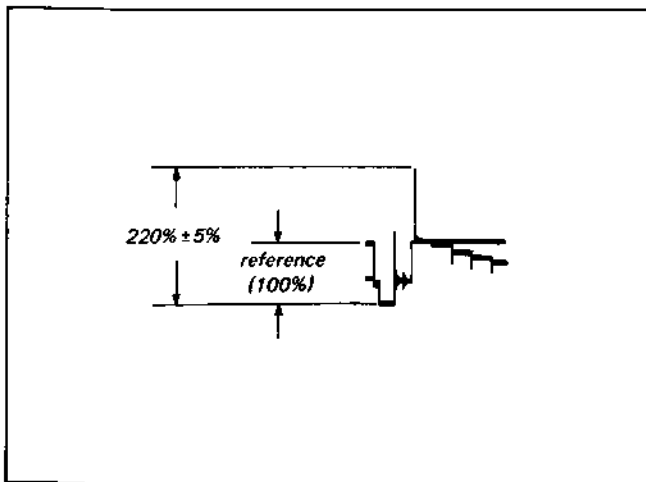

Fig. 4-4-6. White clip adjustment
- (1) Supply the VTR with the colour bar signal and set up the E-E mode.
- (2) Connect the oscilloscope to TP4 (collector of Q8).
- (3) Adjust RV5 so that the signal tip (white peak) is  $220\% \pm 5\%$ . (See Fig. 4-4-6.)